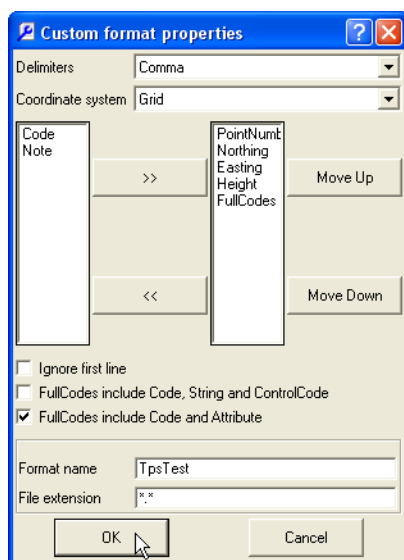

Figure 3-13. Enter Format Name and File Extension
11. Name the format and give it an extension to include it in the *Format name* list (Figure 3-13 on page 3-12).